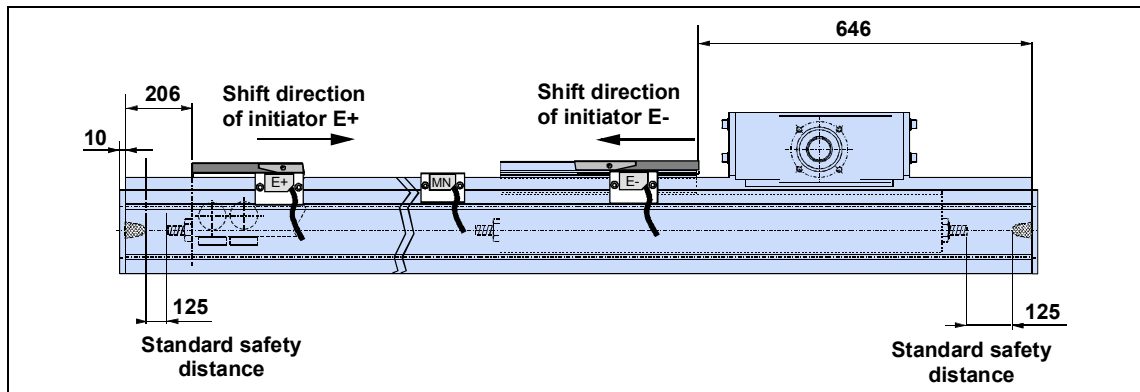

Fig. 3-4: External initiators: Setting up end limits and safety travels
2. Place limit switches as shown in figure 3-4.
3. **E-**: Bring carriage with load attachment plate to the position given in figure 3-4. Move **E-** limit switch from right towards the stop until it reacts.
4. **E+**: Bring carriage with load attachment plate to the position given in figure 3-4. Move **E+** limit switch from left towards the right stop until it reacts.